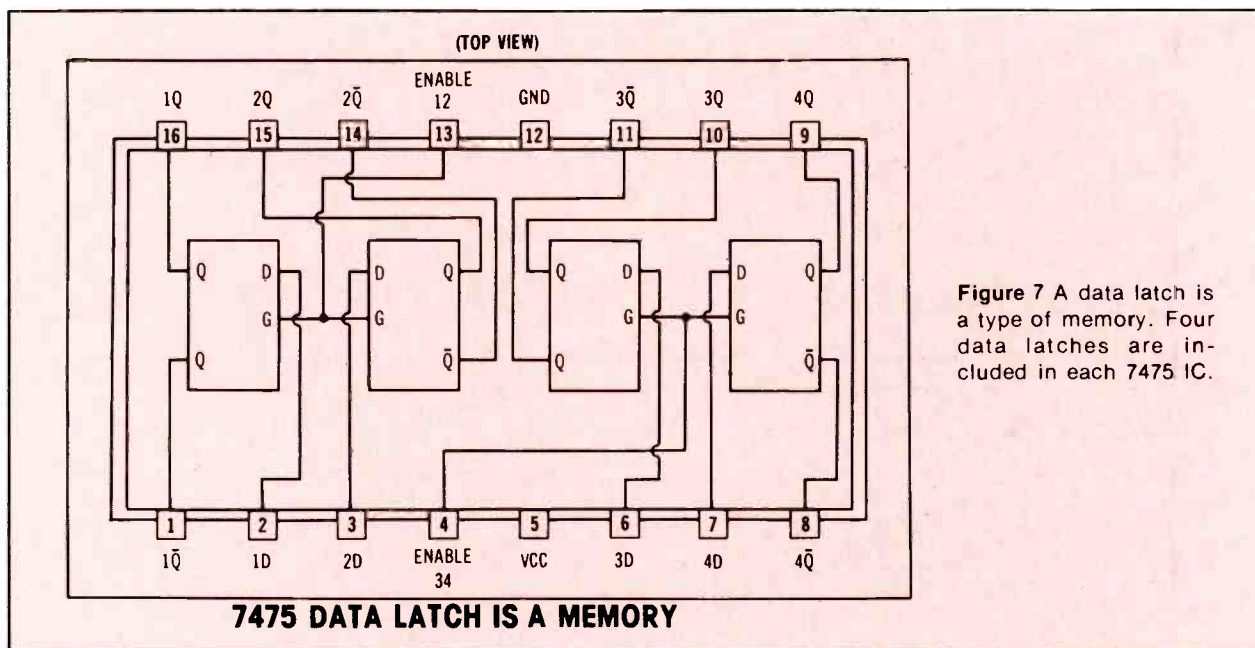

Figure 7 A data latch is a type of memory. Four data latches are included in each 7475 IC.
Data latch—Figure 7 gives the pinout for a type 7475 data latch; and the truth table in Table 1 applies to each of the D-type flip flops in the IC. The top row (first under the line) shows that when the data input (D) has a low when the gate (write) terminal has a high, then the Q output develops a low. (Of course, the \bar{Q} output state always is opposite to that of the Q output.)
Table 1 This is the truth table for each data latch of Figure 7.